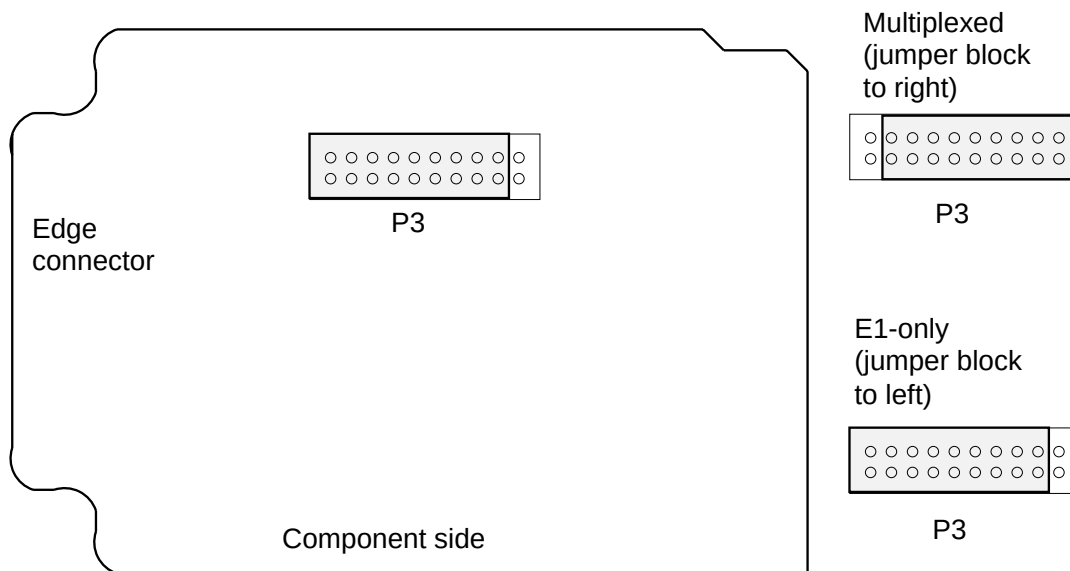

Figure 2. BBG10 OHCTL Option Settings
8. Set orderwire option jumper on **BBG10** plug **P3** for type of orderwire interface required (Multiplexed or E1-only). See Figure 2.